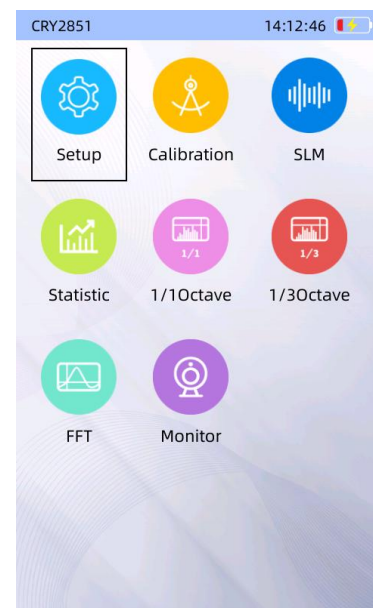

Fig 6.1 Main Interface on
3. As shown in Figure 6.1, the current function menu includes settings, calibration, sound level meter, statistical analysis, 1/1 octave band, 1/3 octave band, spectrum analysis, and monitoring applications. Enter the corresponding application interface by clicking or using the buttons.